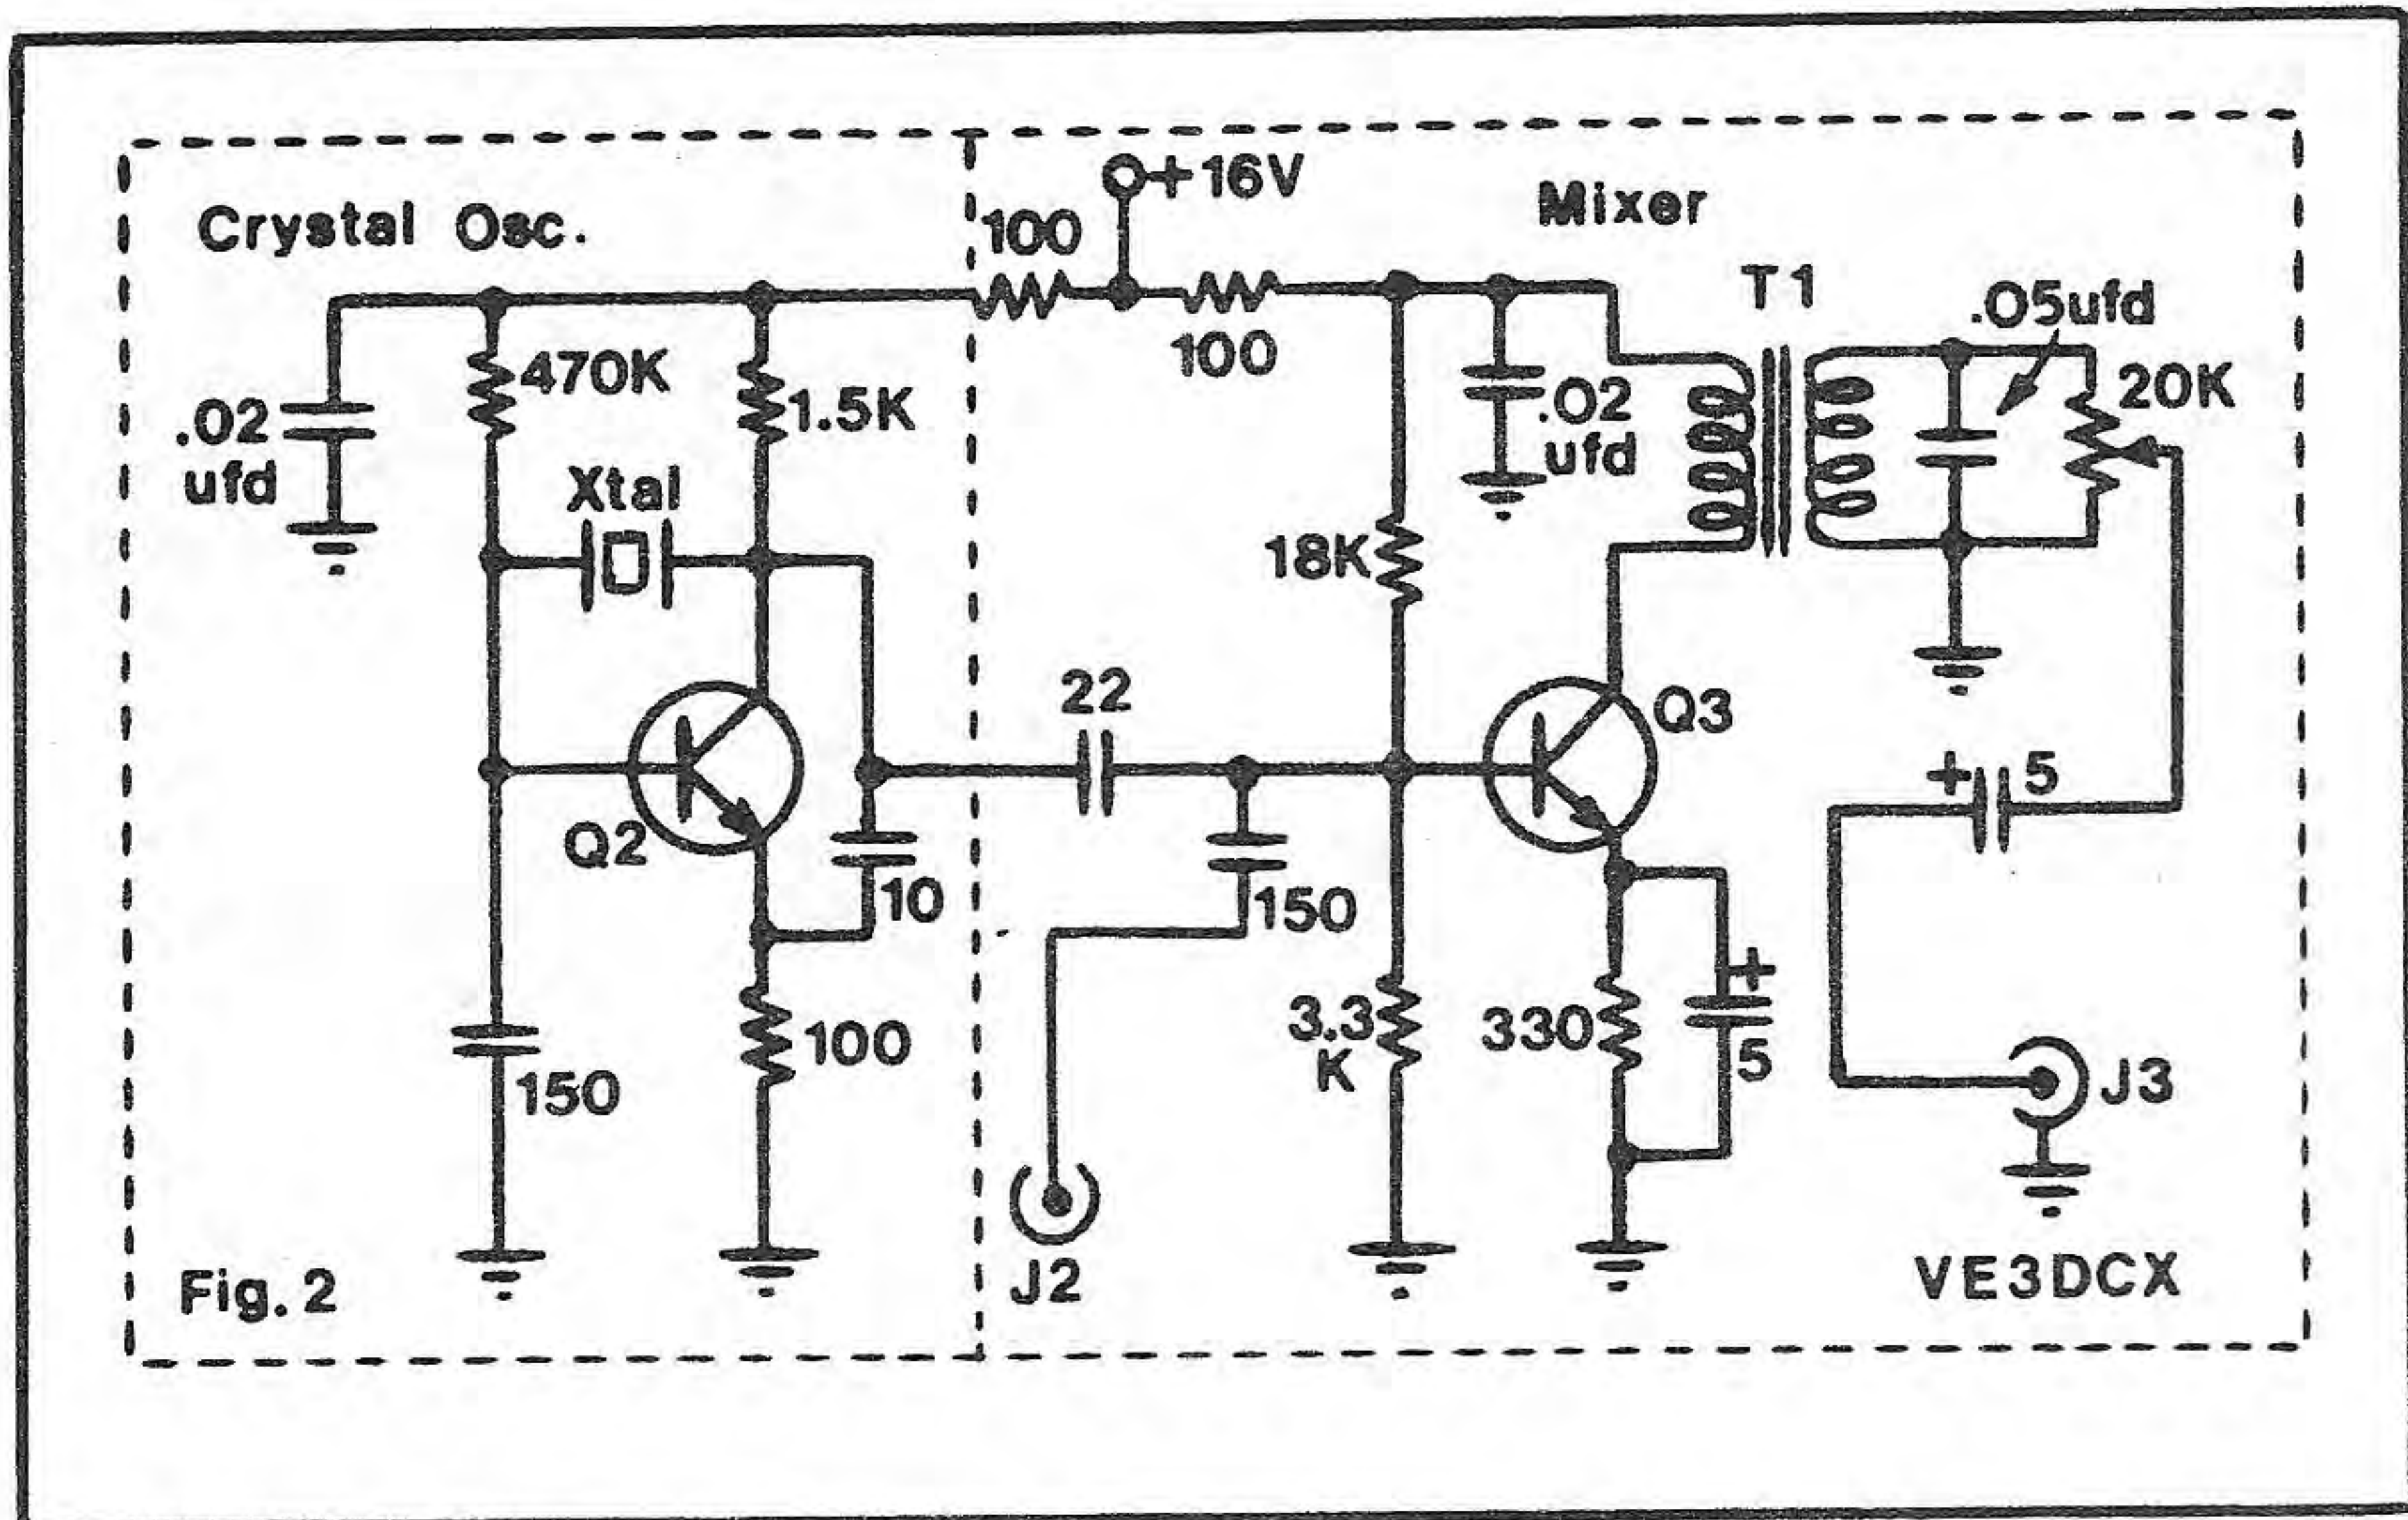
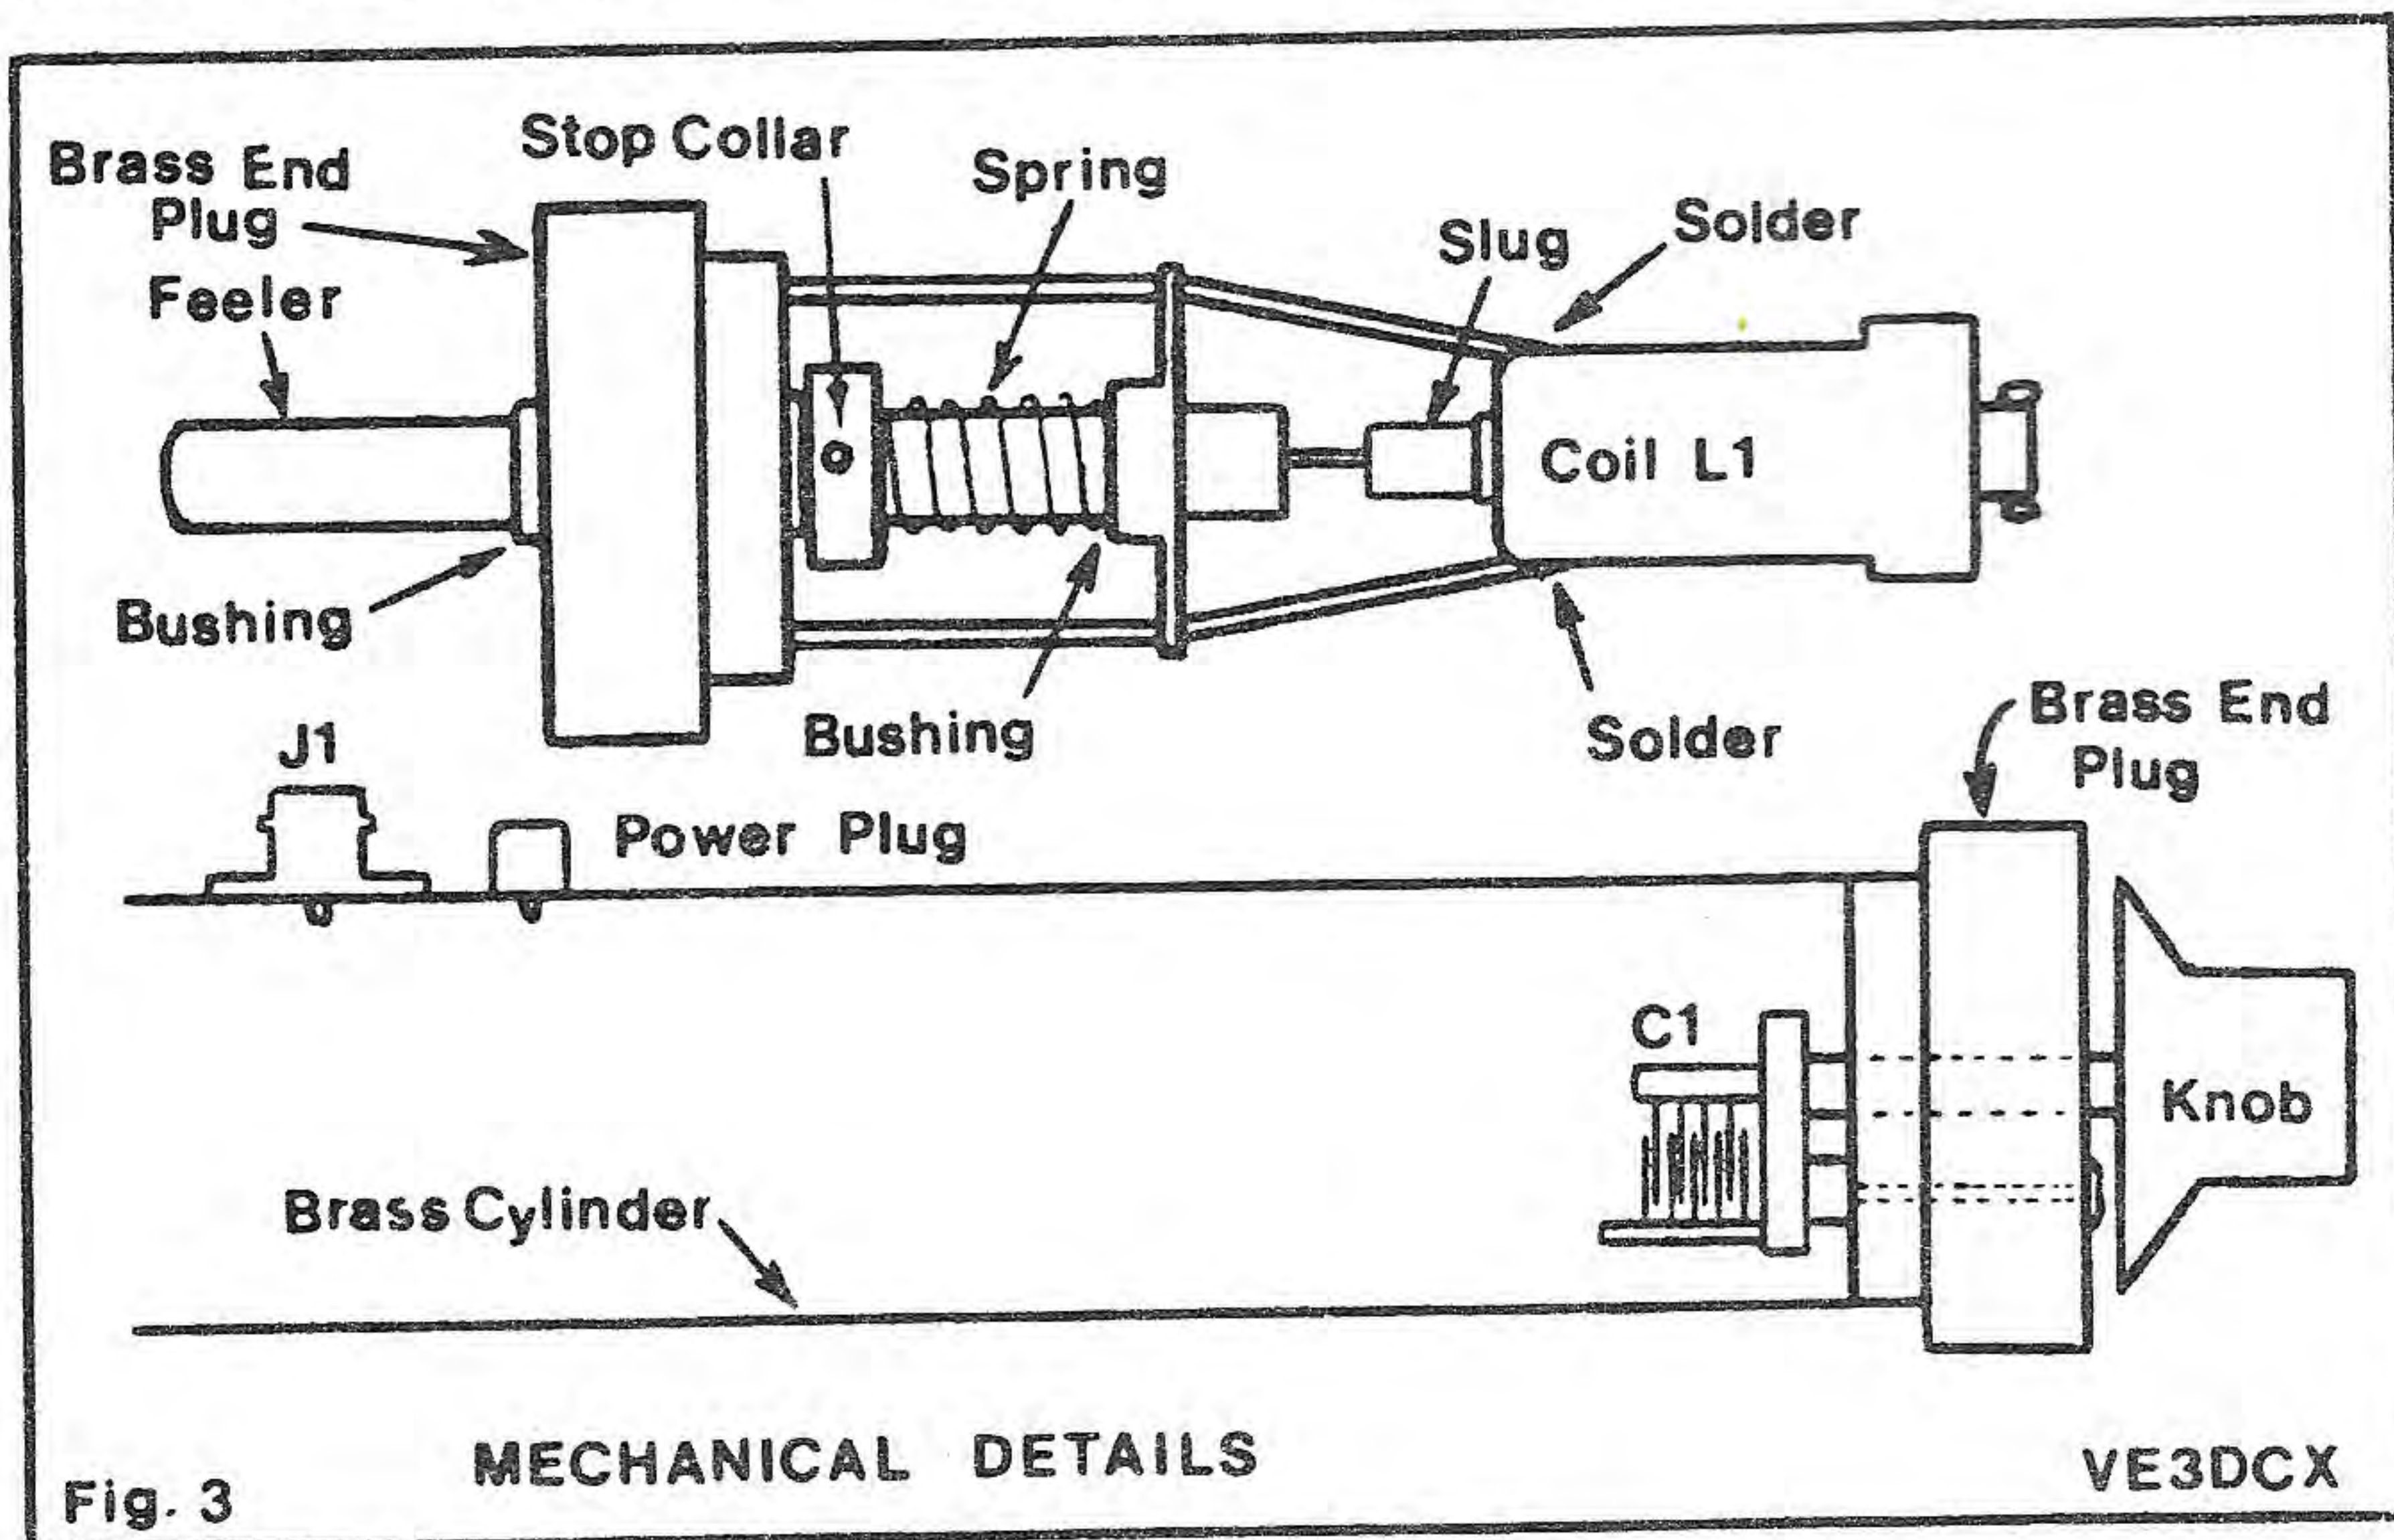

Fig. 2
Fig. 3
This circuit is the standard series tuned colpitts oscillator configuration which is used in many VFO circuits. In fact, with slight changes, this circuit can be used as a 160 meter band VFO in a QRP rig. Two acceptable methods of changing the frequency of oscillation are (1) capacitor tuning, or (2) slug tuning the coil. In our device a capacitor tunes the circuit so that it oscillates near 1 MHz, and then the coil is tuned by the slug to accomplish measurements. Refer to Fig. 3 for the mechanical construction details of the feeler and coil assembly. The
The case we used for the oscillator is pictured in Fig. 3. It is a small brass cavity made by Sinclair, Model H150. It was purchased at a flea market. This particular item is made up of a brass sleeve about the same size as a cardboard toilet paper roll centre, and it has brass plugs which fit into the ends of the cylinder and are held in place with screws. The cylinder is about 1¼ inches in diameter and about 6 inches long. The components are mounted on the end plugs as shown in Fig. 3. Any rigid case can be used by the builder; however, it should be of all-metal construction for shielding purposes.
The coil L1 is unique. It is a slug tuned inductor removed from an old automotive radio. In most of these receivers there are 3 such coils mounted together, sometimes in the same container. Usually the container is made of lead, and one coil can be removed from the others using a hacksaw. I recommend using one of the two RF amplifier coils. They can be distinguished from the oscillator coil which usually has more than one winding. Disassemble one of the RF amplifier coils and mount as shown in Fig. 3. As you can see the coil slug is secured in the end of the feeler, and any in and out motion of the feeler results in movement of the coil slug, and hence changes the frequency of the oscillator. The output from the oscillator is routed through J1 and via a coaxial cable to the mixer stage in Fig. 2.
To do this, build the portion of Fig. 2 to the left of the dotted line (the circuitry surrounding Q2). The 22pf capacitor can be used and is connected to the collector of Q2. The other end of the capacitor should be connected to a small whip or a short piece of wire in order to radiate a small amount of signal. In order to use as a frequency spotter it will be necessary to order a crystal (see ads in this magazine) cut for the fre-